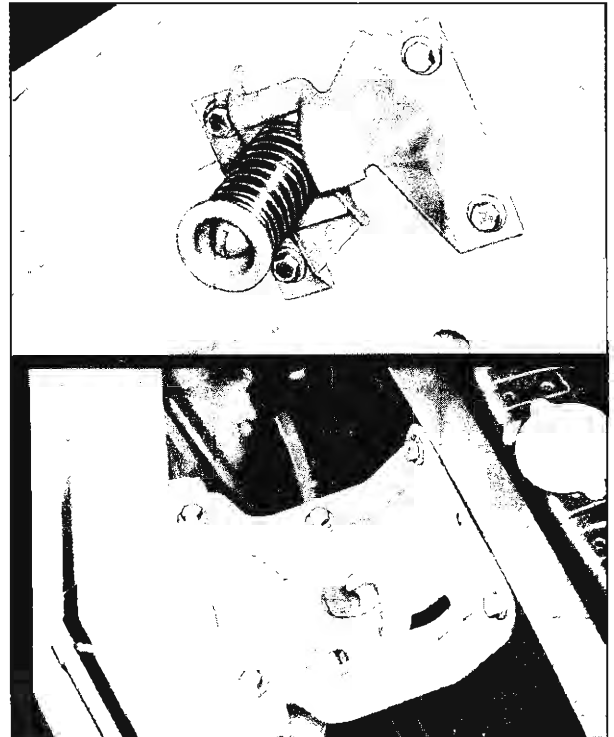
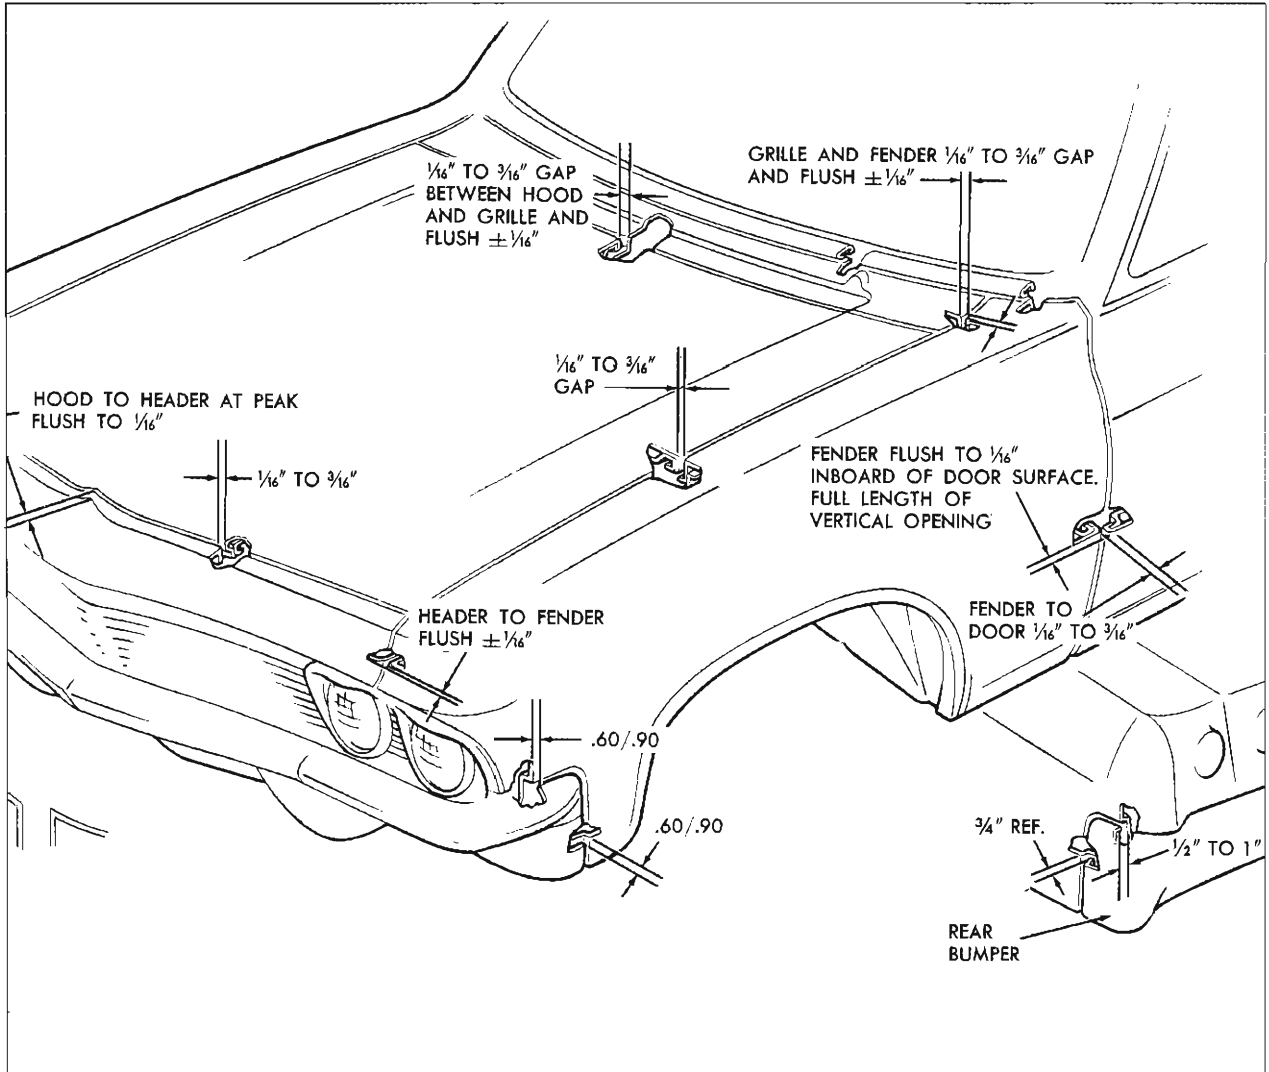

Fig. 3—Hood Catch, Support and Lock Plate
Fig. 4—Sheet Metal Adjustment
The hood catch assembly (fig. 3) mounting bolts are slotted to provide adjustment for the hood lock bolt. Adjust the hood lock bolt until hood and header peak the surface line as shown under sheet metal adjustment (fig. 4).
For proper operation of doors and hood, and for presentable appearance, front sheet metal must fit within the tolerances shown in Figure 4. The sheet metal is adjustable at six points (three on each side of car) by means of spacer shims shown by Figures 5 and 6.
**HOOD LOCK AND CATCH ASSEMBLY (SEE FIG. 3)**